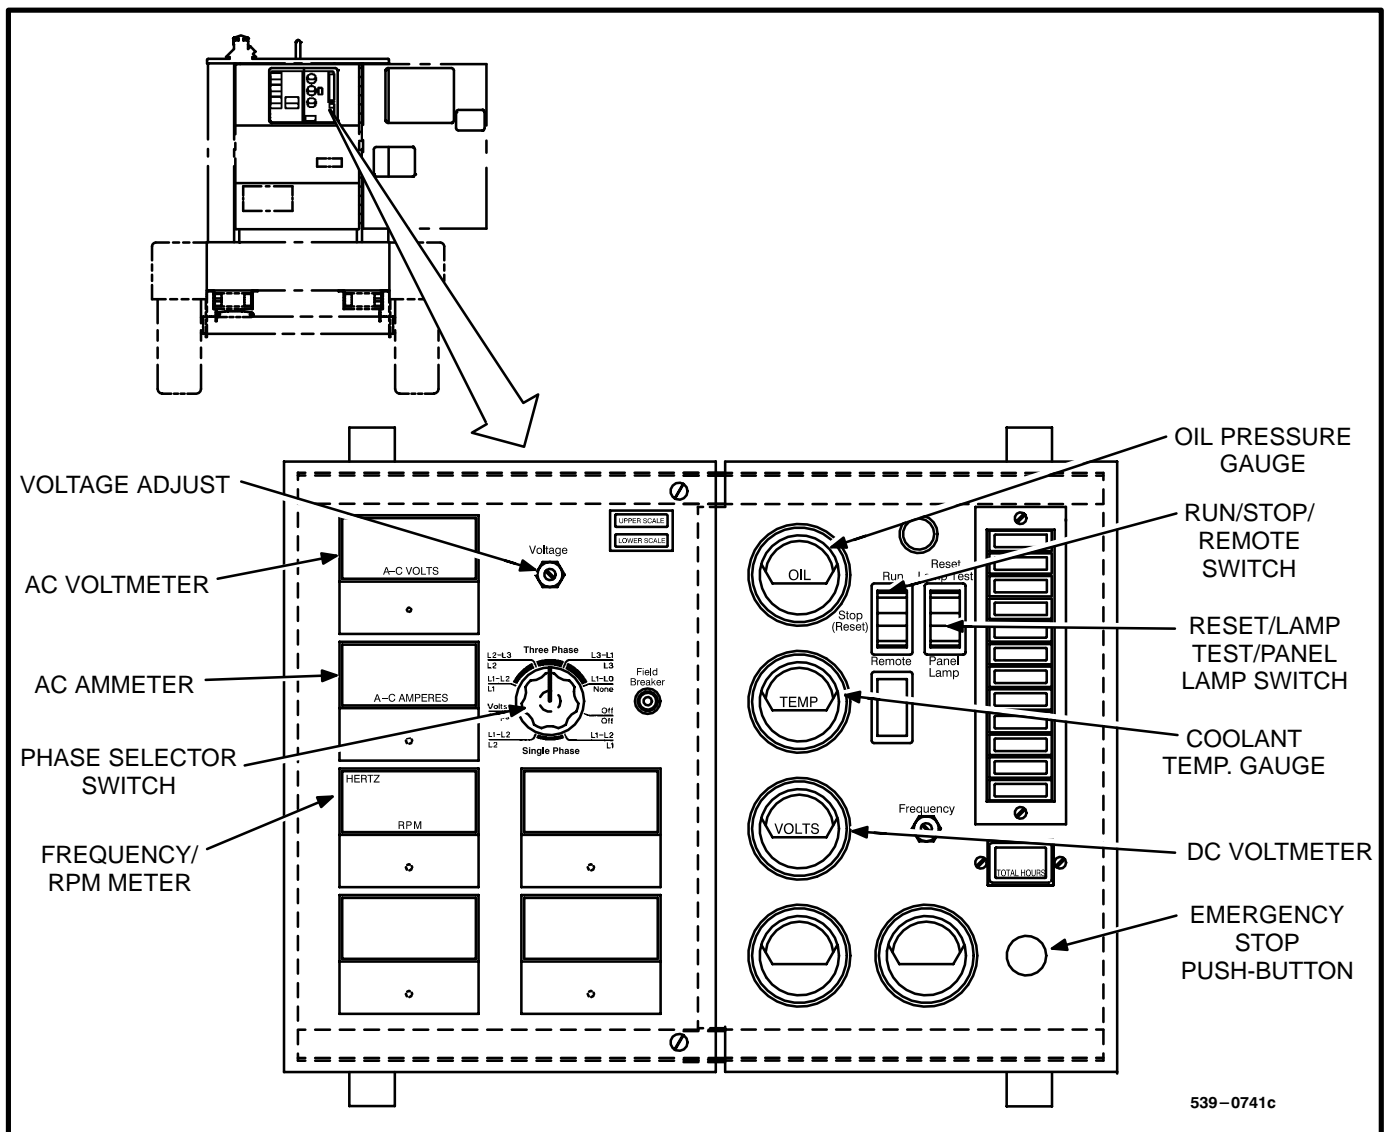

FIGURE 7-5. GENSET CONTROL PANEL
Check the following while the genset is operating. Refer to Figure 7-5 for location of engine gauges.
Check the following meters while the genset is operating. Refer to Figure 7-5 for location of the generator AC meters.
**Emergency Stop:** An optional emergency stop button is located on the right side of control panel (see Figure 7-5). Push the button in for emergency stop. Note that no fault indicators will light when the emergency button is used. To reset the fault circuitry, pull the emergency stop button out and move the Run/Stop/Remote switch to the Stop position. Then move the test switch to Reset/Lamp Test position.
With the genset stopped, hold the Reset/Lamp Test switch in the Test position (see Figure 7-5). All indicator lamps should light. Verify all of the lamps are on and then release the switch. Contact an Onan distributor if any lamps require replacement.
If the optional AC meters are installed, an external control panel-mounted potentiometer is provided for adjusting the AC output (see Figure 7-5).